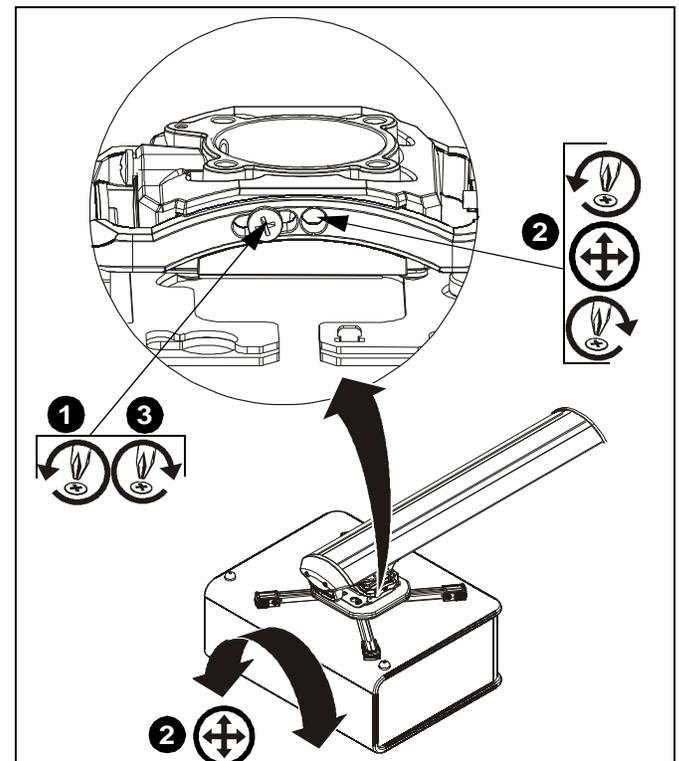

Figure 22
1. Loosen ROLL adjustment locking screw using a #2 Phillips screwdriver. (See Figure 22)
2. Turn ROLL micro-adjustment screw right or left using a #2 Phillips screwdriver until image is properly aligned on target. (See Figure 22)
3. Tighten ROLL adjustment locking screw using a #2 Phillips screwdriver. (See Figure 22)